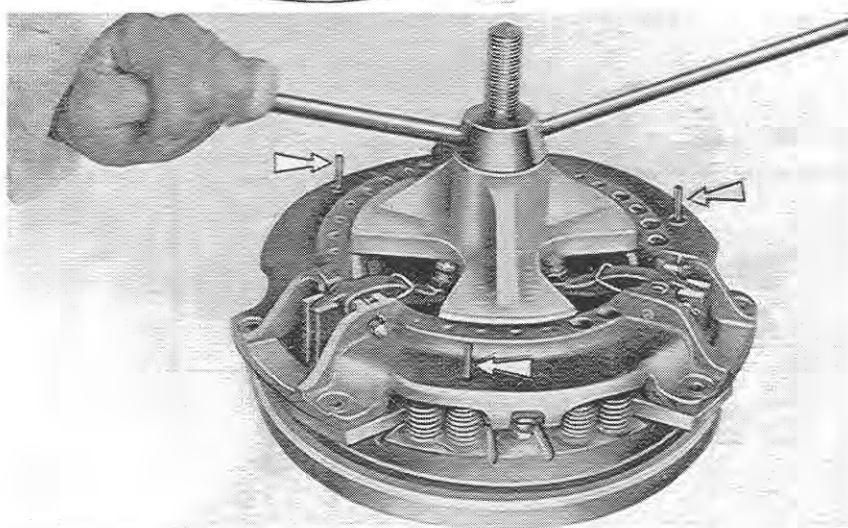

Fig. 4
- 5) Screw right down the compression nut and replace the three slave bolts (fitted paragraph 1 of Operation H4) by three threaded guide rods (Fig. 4).